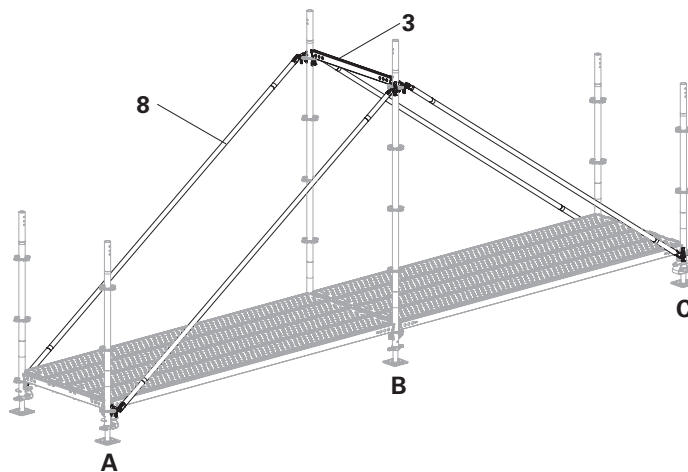
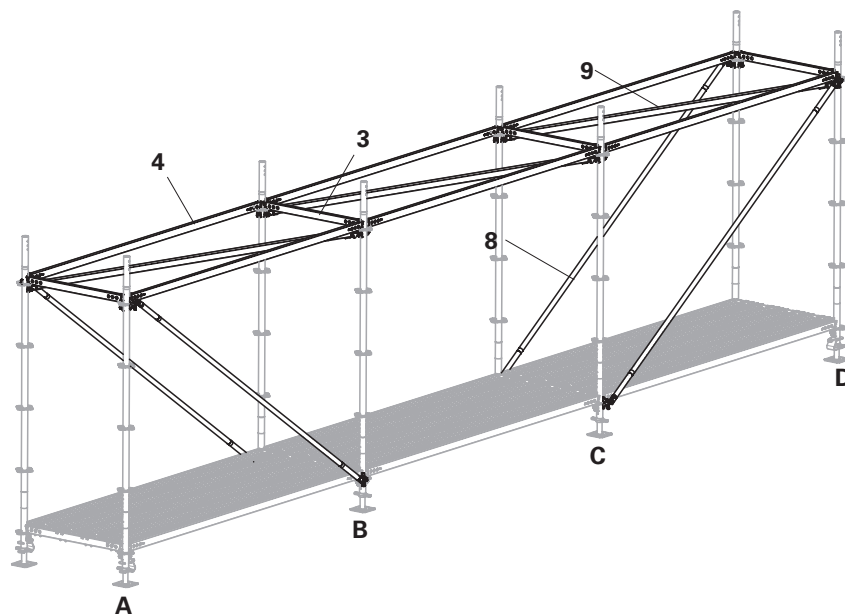

Fig. A1.05
Fig. A1.06
- Fit the Node Braces UBK-2 300/200 (8) onto the edge frame columns (A + C) using the lowest rosettes of the top standards. Fit them onto the rosettes on the centre frame column (B) at a height of 2 m. (Fig. A1.05)
- Fit the Node Braces UBK-2 300/200 onto the edge frame columns (A + D) using the rosettes at a height of 2 m. Fit them onto the centre frame columns (B + C) using the lowest rosettes of the top standards. (Fig. A1.06)
- Connect the top standards (B) at a height of 2 m in the transverse direction with Horizontal Ledger UH-2 100 (3). (Fig. A1.05)
- Connect all top standards at a height of 2 m in the transverse direction with Horizontal Ledger UH-2 100 (3).
- Connect all top standards in the longitudinal direction with Horizontal Ledgers UH-2 300 (4).
- Install Horizontal Braces UBH (9). (Fig. A1.06)